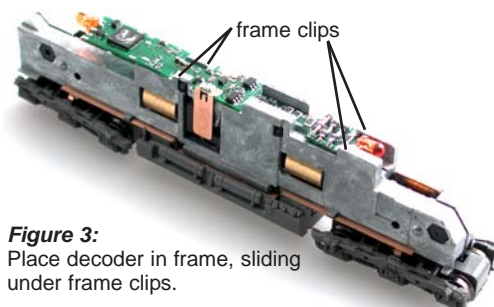

Figure 3: Place decoder in frame, sliding under frame clips.
3. Install the DN163K1B decoder by tilting it slightly as you insert the front corners into the forward frame clips. Press the decoder board forward so the board's corners are under the motor clips down over the motor contacts and slide the decoder board forward so the board's corners are under the frame clips. Figure 3
5. Replace the locomotive shell. Digitrax decoders are set up with configuration variable (CV) default values so you can run your locomotive right away using address 03.